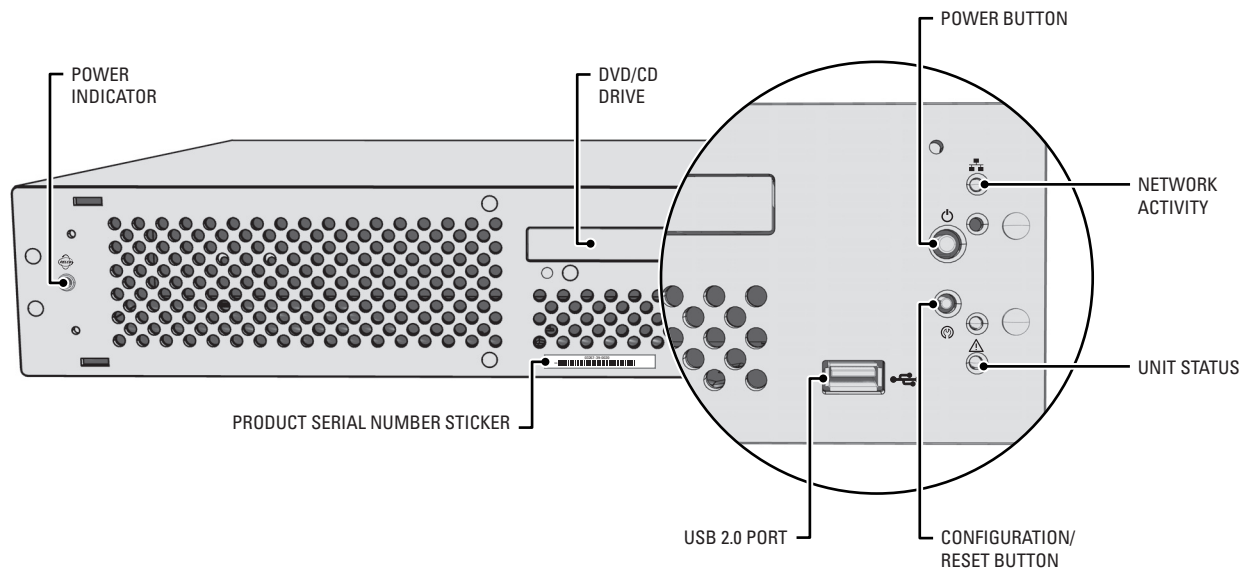

Figure 12. Front Panel Indicators (Bezel Open)
2. Turn on the Endura workstation by momentarily pressing the black power button on the front of the unit (refer to Figure 12).
NOTE: The white configuration/reset button is reserved for future use (refer to Figure 12).